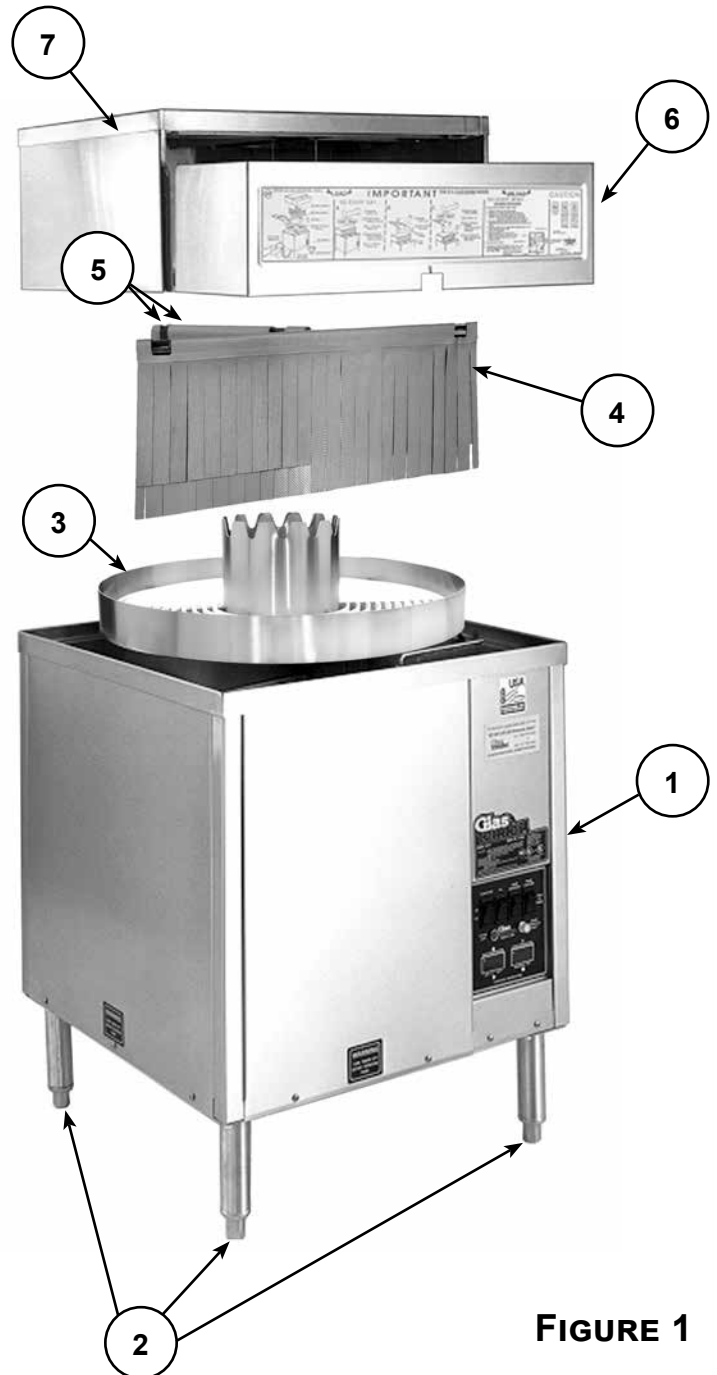

FIGURE 1
The glasswasher is shipped in one carton. Please refer to Figure 1 and locate the following items:
NOTE: Figure 1 shows a clockwise model with front switch panel.
- Place Top Section of glasswasher on the extreme rear of the Main Section (see Figure 1, page 3).
- Remove front panel of Main Section (see Figure 1, page 3.).